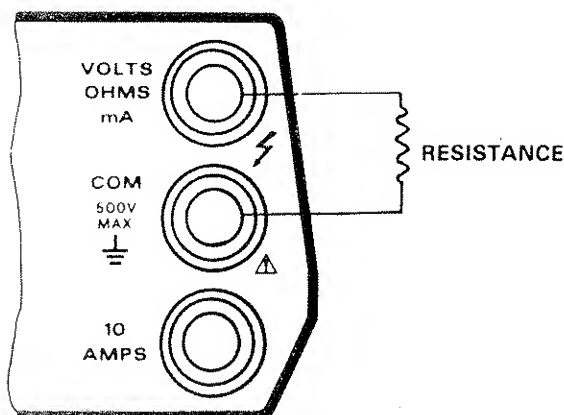

Figure 2-4. Resistance Measurements
4. Connect the test leads to the resistance to be measured as shown in Figure 2-4.